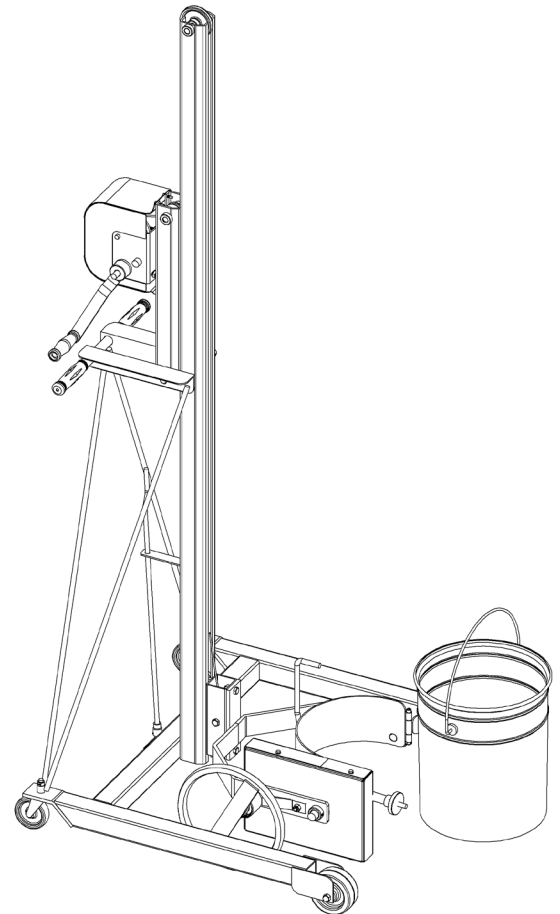

Figure 1
2. Using the cable winch, crank the handle to position the pail holder assembly with the back band at the middle of the pail. (see Figure 1). If the pail has a pivoting wire handle, swing it to lay on the front side to clear the back band. With the front band hinge plate and clamp screw knob swung open, push the unit forward until the back band rests firmly against the pail. Engage the screw down floor lock.